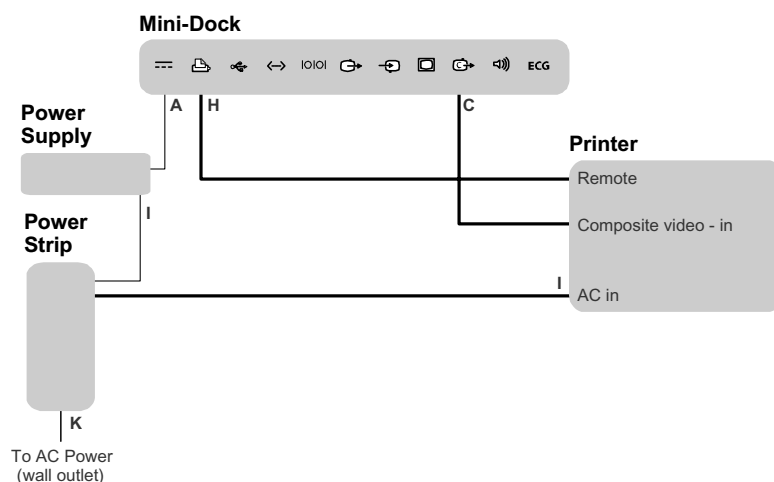

Figure 3 Connectivity of System and a Printer on MDSe
The MDSe provides connections for a black-and-white or color printer. See Figure 3 For specific information on using the printer, including warnings and cautions, see the manufacturer's instructions.
- 3 Connect the cables. See Figure 3 on page 11 and “Cables, Connectors, and Mini-Dock Symbols” on page 17.